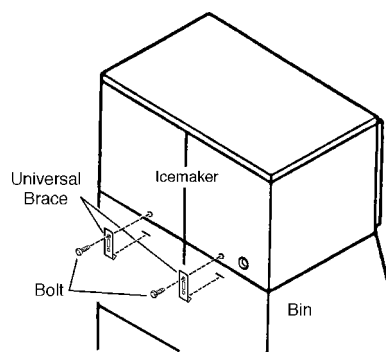

Fig. 2
- 4) Secure the icemaker to the Storage Bin by using the two Universal Braces and the bolts provided. See Fig. 2.